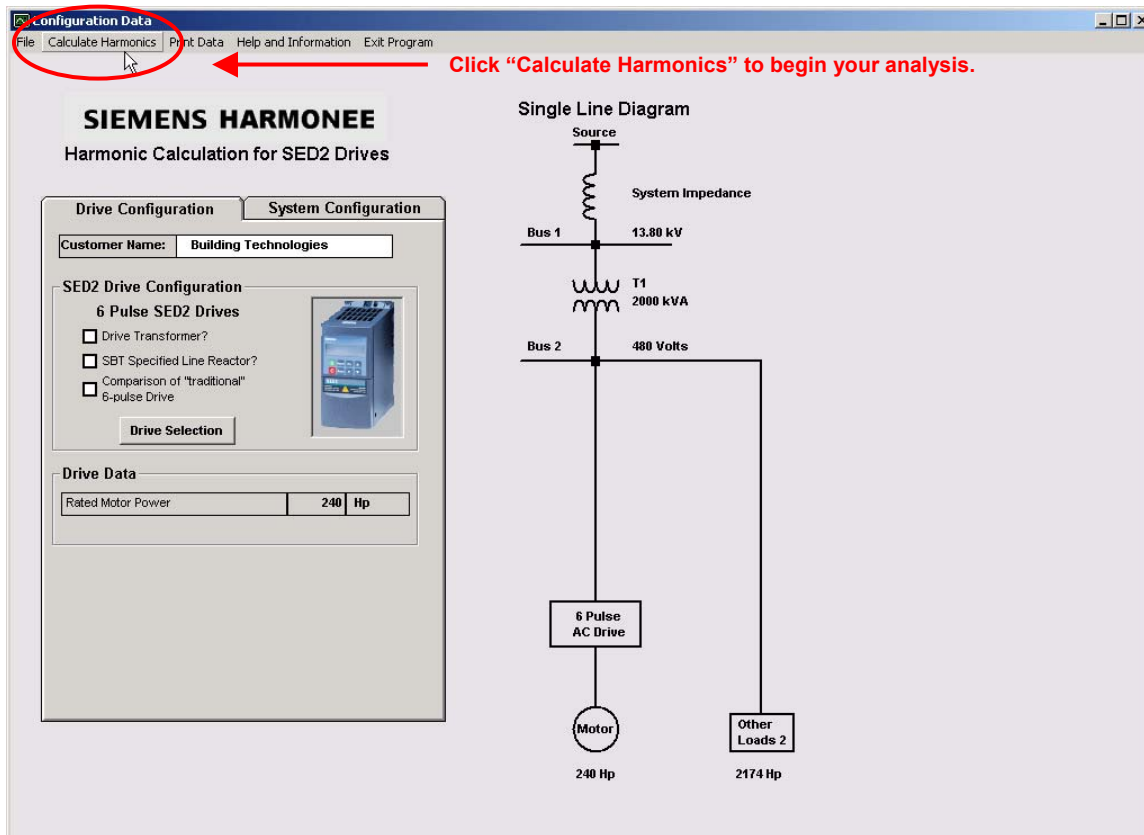

Figure 10 -- Calculate Harmonics Button
- a. Once you have selected all desired options, you are ready to run your analysis. Click the **Calculate Harmonics** button in the top navigation to view your results. (See Figure 10)